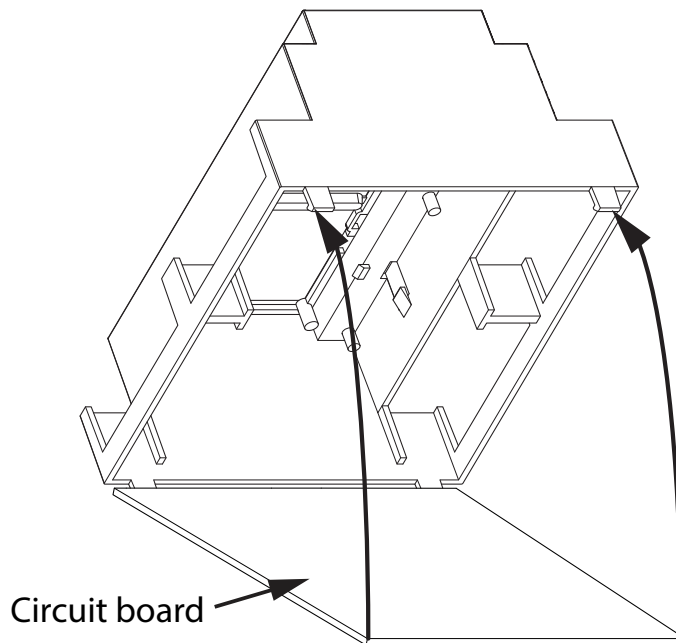

Figure 6 Fit the circuit board in enclosure
1. Hold the circuit board with one hand, and with the other hand lift the tabs so that you can fit the circuit board into the enclosure as shown in Figure 6.